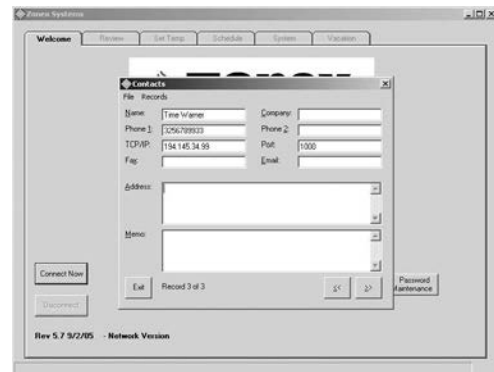

Fig. 4
- D. Verify that the **Contacts** window appears (see Fig. 4).